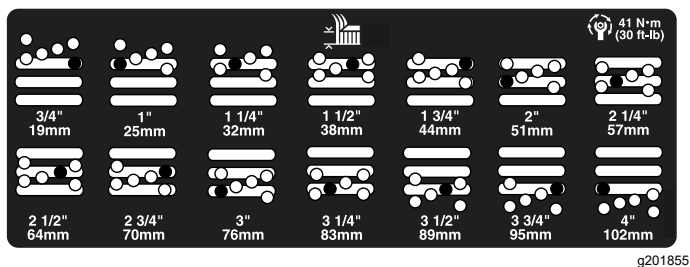

Figure 23
5. Move the chamber to the desired height of cut and install a spacer into the designated height-of-cut hole and slot (Figure 23).